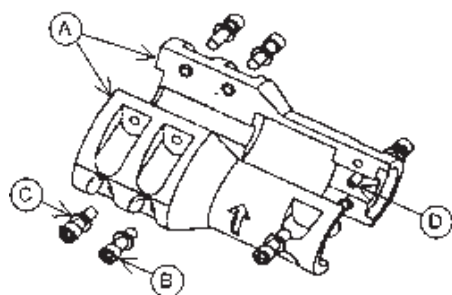

Figure 18: Motor Coupling
3. Remove the (2) coupling guards.
4. Disassemble the coupling by removing the (6) socket head screws. Remove the dowel pin on the pump shaft. See Figure 18. Retain bolts and dowel pin for reassembly.